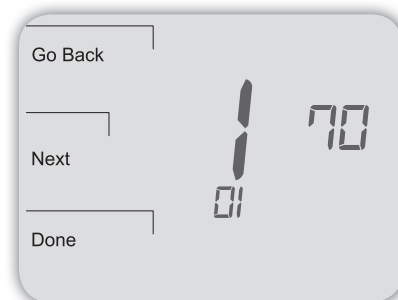

Figure 24. Service Menu 170 allows the user to enable the Indoor Remote Zone Sensor.
4. **Go to Service Menu 170.** Select option "01" to enable the Indoor Sensor (see Fig. 24).